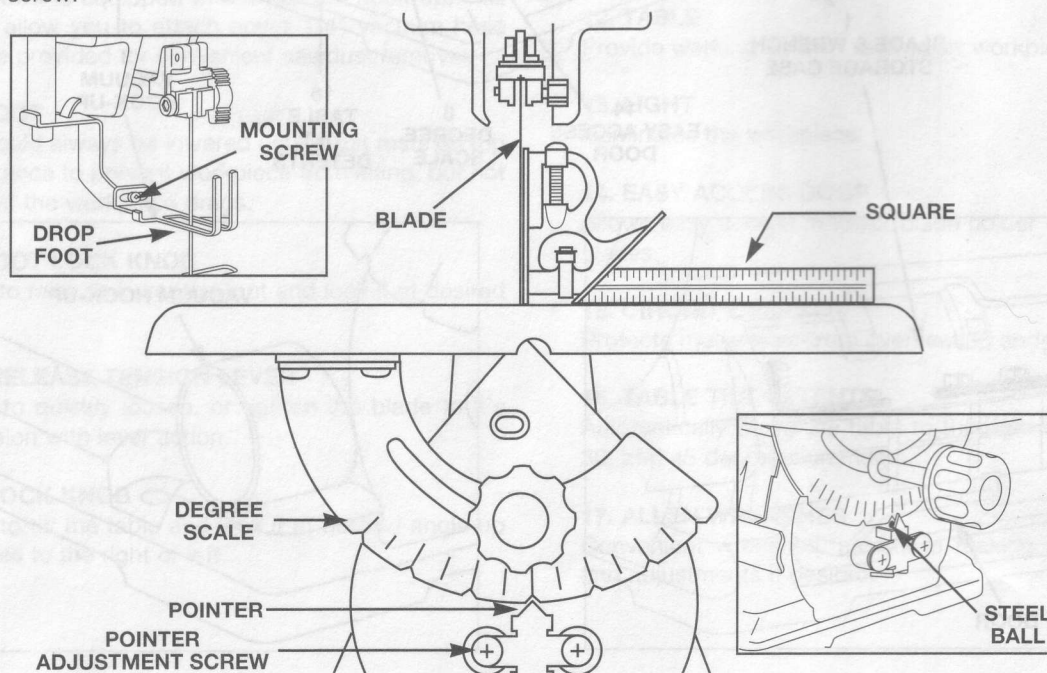

FIG. 5
2. With the wrench provided remove the drop foot assembly, mounting screw, and washer, and move it out of the way. Place a small square on the table next to the blade as shown in (Fig. 5) to check if the table is 90° to the blade. If no adjustment is required, replace the drop foot assembly, washer and screw.